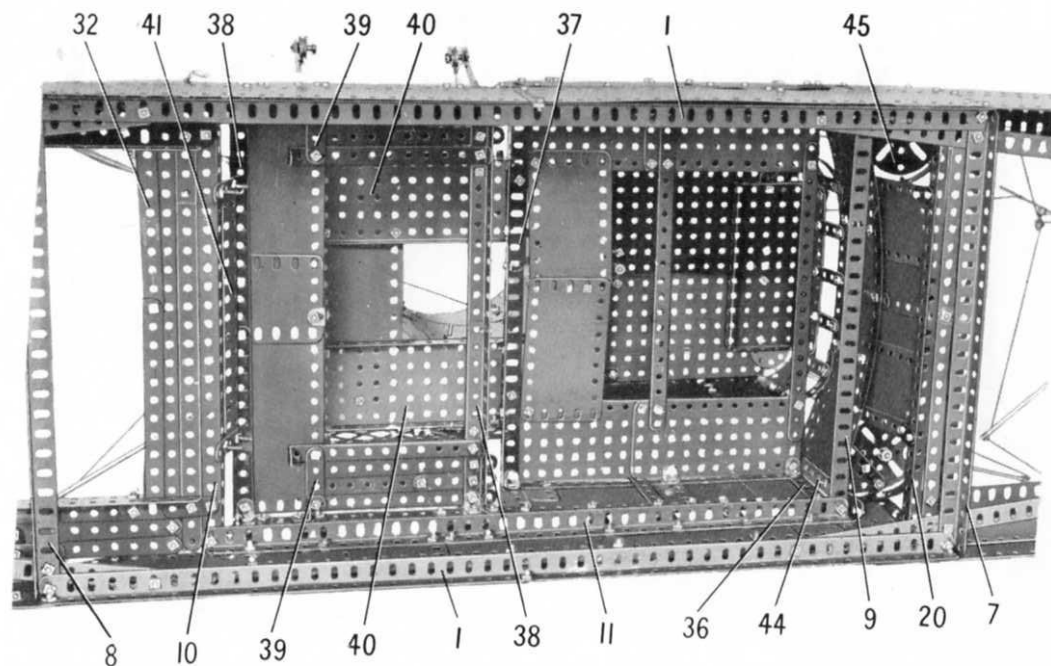

FIG. 5 This view shows the superstructure as seen from inside the hull, and the bracing girders that strengthen the hull amidships
The lower section of the plating on each side of the hull consists of a $9\frac{1}{2}'' \times 2\frac{1}{2}''$ Strip Plate and six $12\frac{1}{2}'' \times 2\frac{1}{2}''$ Strip Plates bolted together. These Plates are strengthened along their lower edges by $12\frac{1}{2}''$ Strips at the bow and the stern, and by a $24\frac{1}{2}''$ Angle Girder (1) (Fig. 5) amidships. The Strip Plates amidships are
The sides of the hull are connected by two $12\frac{1}{2}$ " Angle Girders (7) and (8) (Fig. 5) and by similar Girders (9) and (10) bolted to the ends of $18\frac{1}{2}$ " Angle Girders (11). Two $18\frac{1}{2}$ " Angle Girders fixed to the Girders (1) and (8) are supported at their rear ends by a $9\frac{1}{2}$ " Angle Girder (12), which is attached to the sides of the hull by Angle Brackets. Two $24\frac{1}{2}$ " Angle Girders are bolted to the Girders (1) and (7), and to a $9\frac{1}{2}$ " Angle Girder (13) that is connected to the hull by Angle Brackets.
A $7\frac{1}{2}$ " Strip (17), with a $5\frac{1}{2}$ " Angle Girder bolted centrally to it, is attached to the strip (16) by two Fishplates. A $12\frac{1}{2}$ " Flat Girder (18) on each side is supported by the Strip (17), and its rear end is joined by a 2" Flat Girder to a further $12\frac{1}{2}$ " Flat Girder (19). The front end of the latter part is connected to the side of the hull by an Angle Bracket, and the rear end is supported by a $12\frac{1}{2}$ " Angle Girder (20) (Fig. 5), which also is fixed to Angle Brackets. Two $12\frac{1}{2}$ " Strips are bolted across the Flat Girders (19) in front of the Angle Girder (20).
The top edges of these Plates are strengthened by two $5\frac{1}{2}$ " Strips, and the front edge of the $4\frac{1}{2}$ " \times $2\frac{1}{2}$ " Flexible Plate is braced by a vertical $7\frac{1}{2}$ " Strip (36) (Fig. 5). A $5\frac{1}{2}$ " \times $2\frac{1}{2}$ " and a $4\frac{1}{2}$ " \times $2\frac{1}{2}$ " Flat Plate on each side are attached by Angle Brackets to the strips (33). The Flat Plates are connected across by two $9\frac{1}{2}$ " Strips, two $4\frac{1}{2}$ " \times $2\frac{1}{2}$ " Flexible Plates, and a built-up girder (37) made from a $7\frac{1}{2}$ " and a $5\frac{1}{2}$ " Angle Girder overlapped two holes. The rails on each side are $5\frac{1}{2}$ " and $3\frac{1}{2}$ " Strips bolted to the top ends of the Strips (35) and (36) and to a Semi-Circular Plate at the rear.
A $5\frac{1}{2}$ " \times $2\frac{1}{2}$ " Flanged Plate (40) on each side is bolted to the girder (37) and these are connected at their rear ends by one half of a Hinged Flat Plate (Fig. 5). A $5\frac{1}{2}$ " Braced Girder is fixed to the outer flange of each Flanged Plate, and two $4\frac{1}{2}$ " \times $2\frac{1}{2}$ " Flexible Plates overlapped two holes are bolted to the rear flanges. The lower edges of the Flexible Plates are strengthened by two $4\frac{1}{2}$ " Strips. A $7\frac{1}{2}$ "